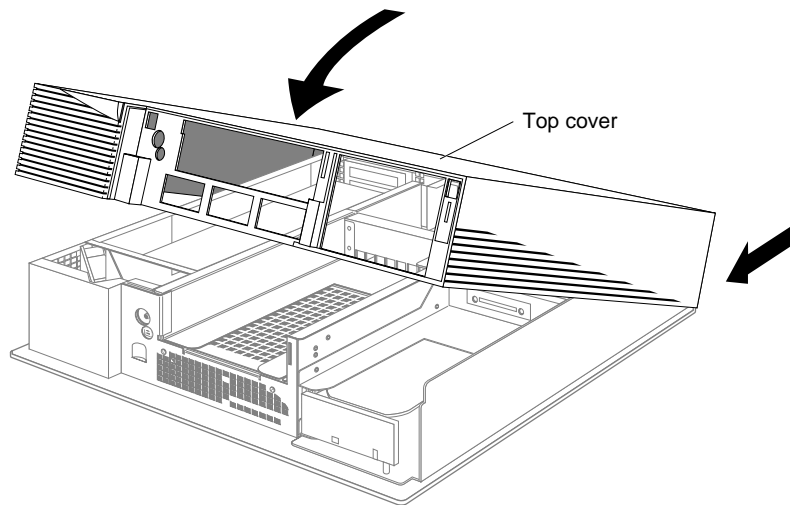

Figure 3-13 Replacing the top cover of the Indigo² chassis
5. Place the back of the chassis cover into the grooves in the back of the chassis, as shown in Figure 3-13. Rotate it down into place.